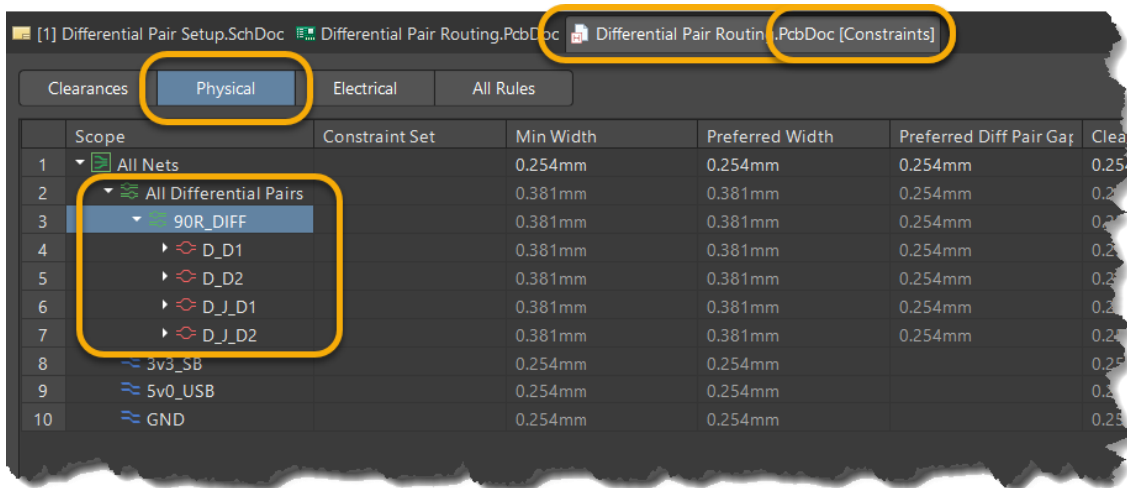

Figure 17. Constraint Manager opened from PCB with Physical view
44. Select the *Physical* view. The Differential Pairs and the Differential Pair Class defined in the schematic are now also available in the PCB, as seen in Figure 17.